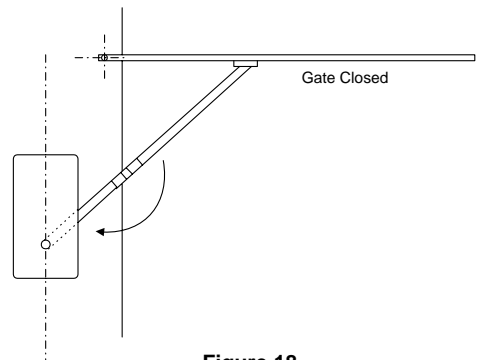

Figure 18
- When the gate is fully closed, the drive and connecting arms should be in a straight line as shown in Figure 18.